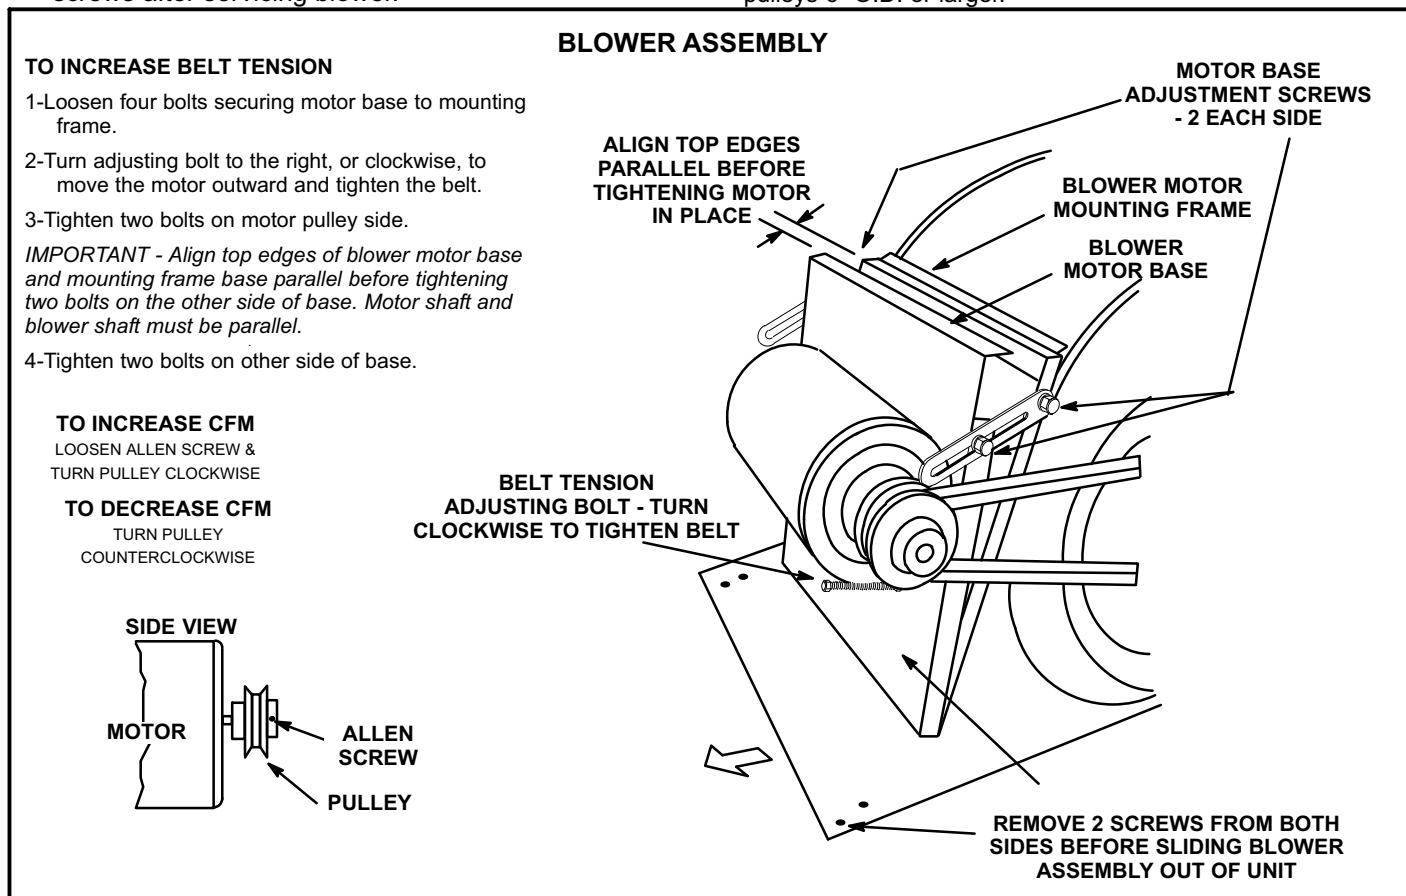

FIGURE 8
The blower compartment in all TGA090/150S units is located between the evaporator coil and the condenser coil section. The blower assembly is accessed by disconnecting the blower motor . See *Blower Access* in the Operation / Adjustment section. The blower pulls out as shown in figure 8.
The blower assembly is secured to a sliding base which allows the entire assembly to be pulled out of the unit. See figure 8.
- 4- The blower RPM can be adjusted at the motor pulley. Loosen Allen screw and turn adjustable pulley clockwise to increase CFM. Turn counterclockwise to decrease CFM. See figure 8. Do not exceed minimum and maximum number of pulley turns as shown in table 10.
1- Loosen four bolts securing motor base to mounting frame. See figure 8.